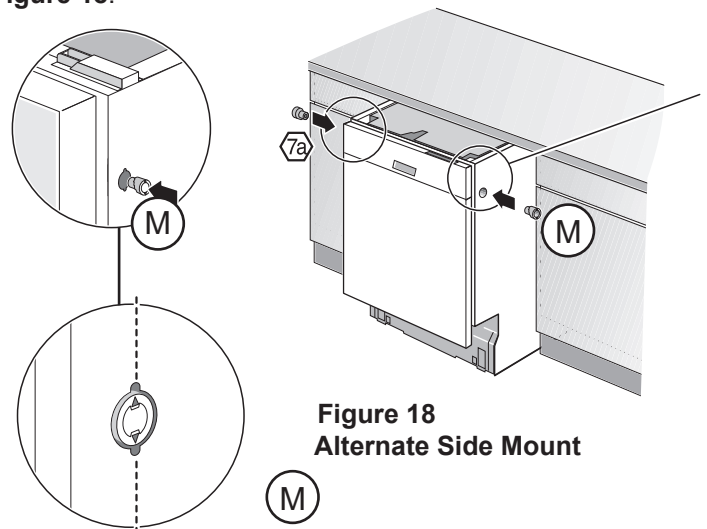

Figure 18
Alternate Side Mount for opening $23\frac{5}{8}$ " (600 mm). Insert a side mount force distributor (M) in each side as shown in **Figure 18**.